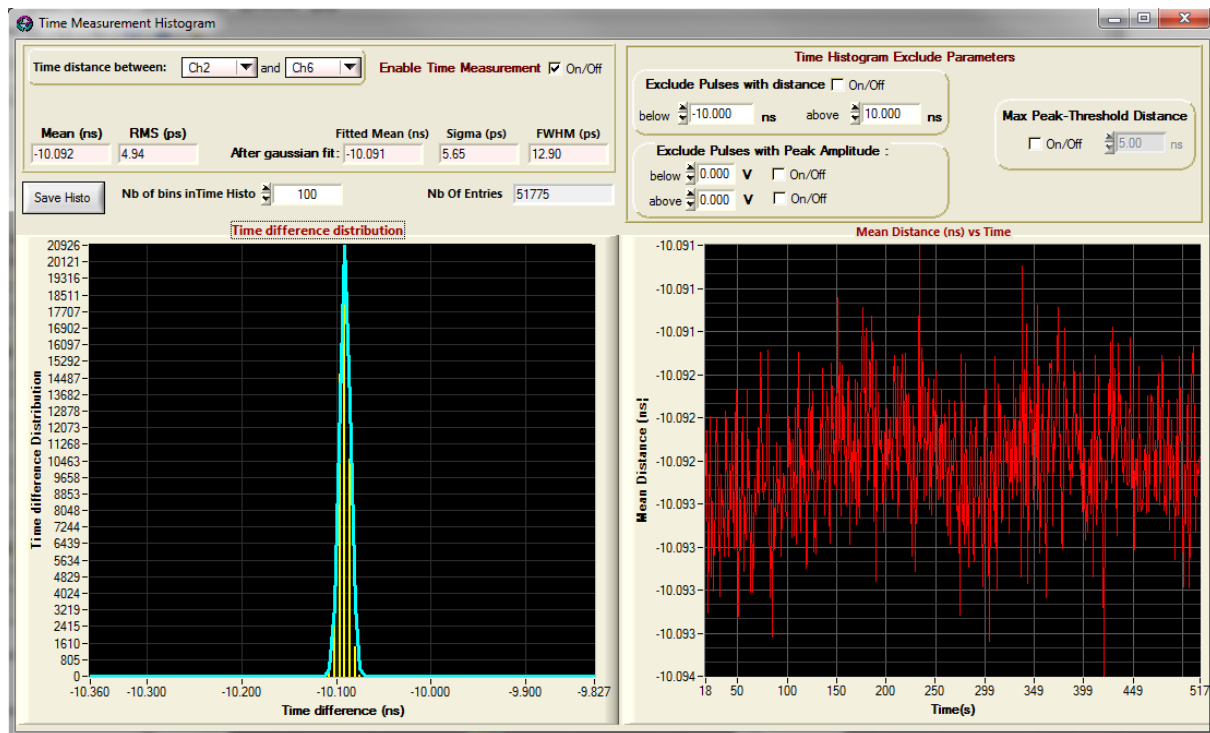

Figure 5.21: *Time Measurements Histogram window*
- **Time Measurements Histogram:** by clicking on this item, the user opens an eponym window (see **Figure 5.21**). In order to perform the measurement, the On/Off checkbox has to be checked.